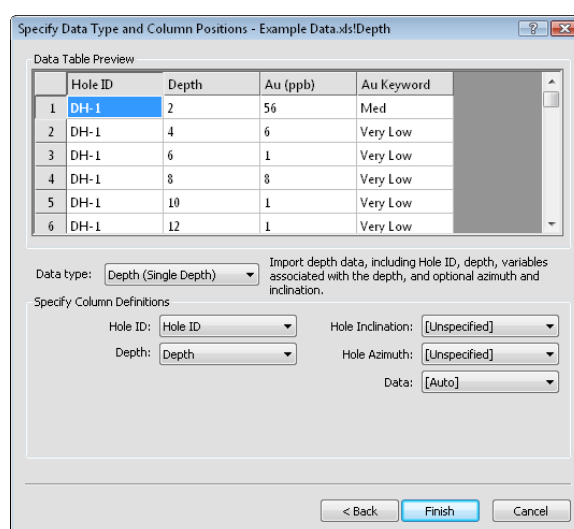

Figure 1.224 – The Example Excell Data.xls | Depth panel
7. Use the drop-down menus to select the appropriate columns for *Hole ID* and *Depth*: Change the required column definitions to match the column locations in the imported data table, fig. 1.224.